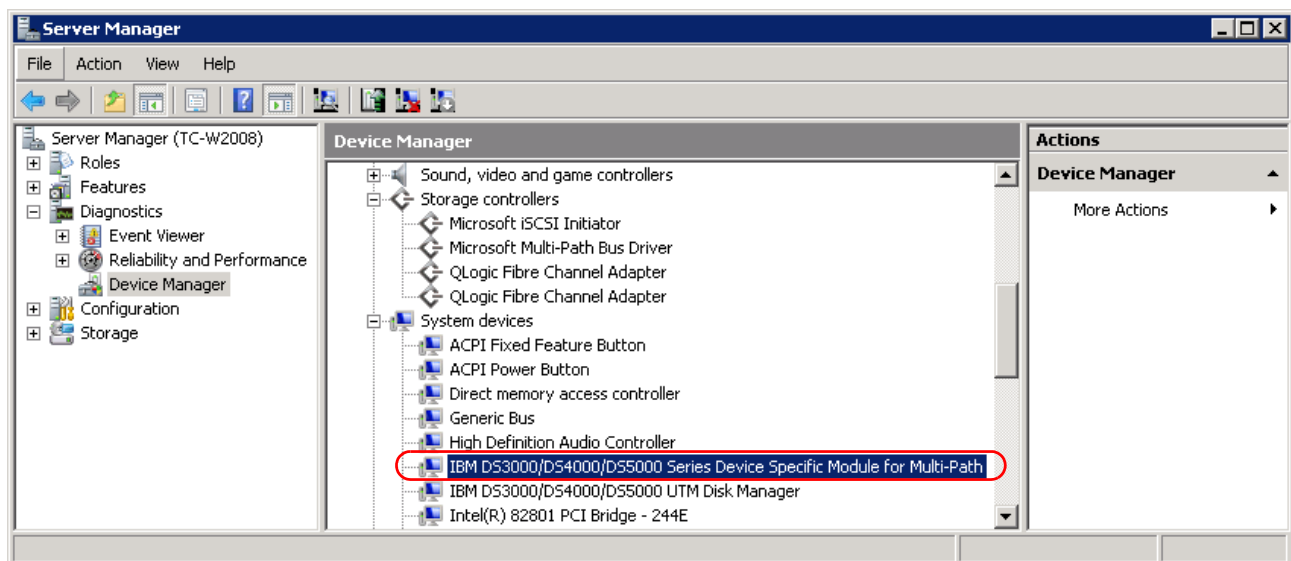

Figure 3-19 SM Failover (MPIO/DSM) Multi-Path Support
You can verify the installation of the MPIO DSM software by viewing the driver with the Manager as shown in Figure 3-19.
5. Open the Device Manager in Computer Management. There should be a Multi-Path Support entry under the SCSI and RAID Controller folder, as shown in Figure 3-19.